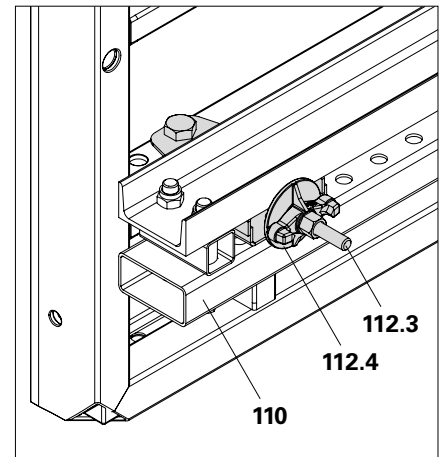

Fig. C4.03b
4. Brace the Formwork Waler 150 CB (110) on the formwork using Tie Rod DW 15 (112.3) and Wingnut Counterplate DW 15 (112.4). (Fig. C4.03b)